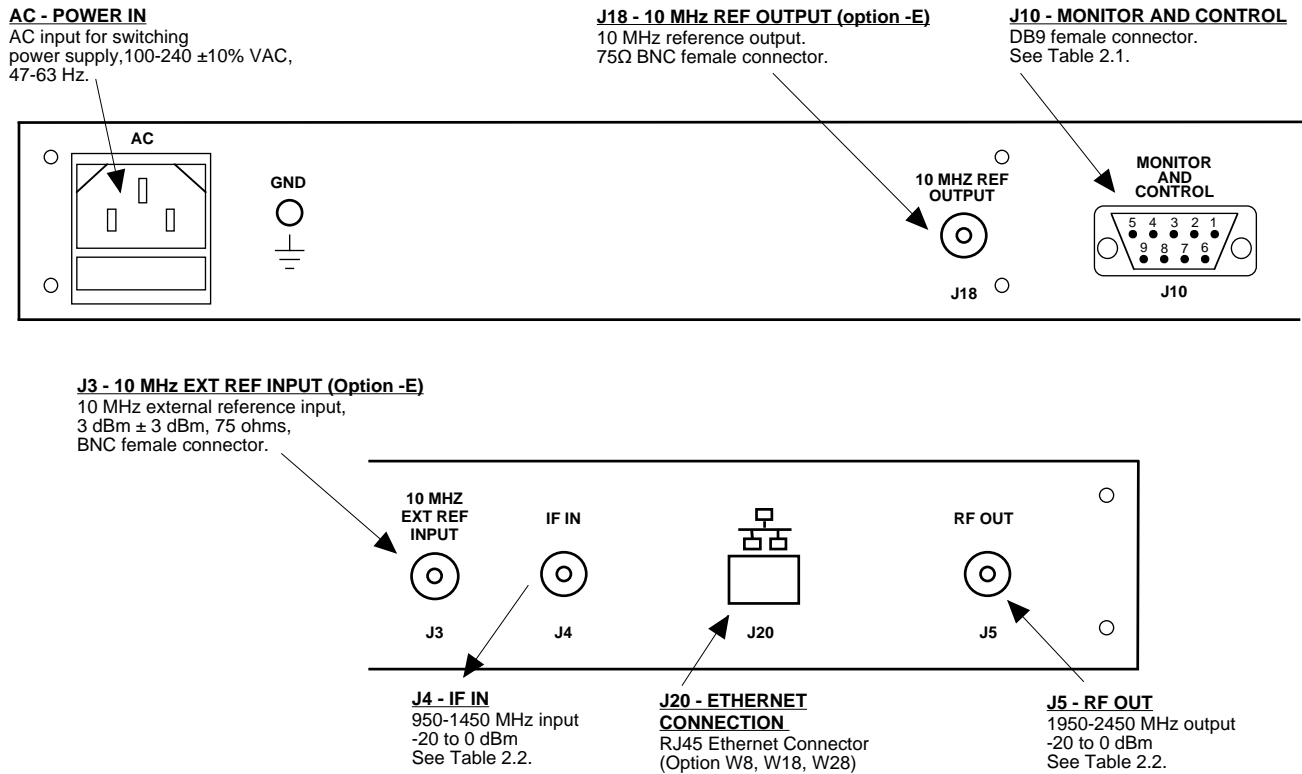

FIGURE 2.2 2083-0919 Rear Panel I/Os
2.2 Rear Panel Input/Output Signals - Figure 2.2 shows the input and output connectors on the rear panel.
1. Connect a -20 dBm to 0 dBm signal to IF IN, J4 (Figure 2.2)